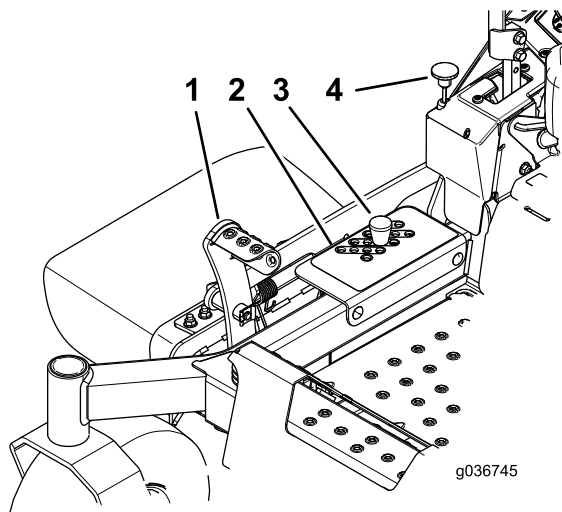

Figure 30
2. Push on the deck-lift pedal with your foot and raise the mower deck to the TRANSPORT position (also the 127 mm or 5 inch cutting-height position) as shown in Figure 30.
3. Remove the pin from the height-of-cut bracket (Figure 30).
4. Select a hole in the height-of-cut bracket corresponding to the height-of-cut desired, and insert the pin (Figure 30).